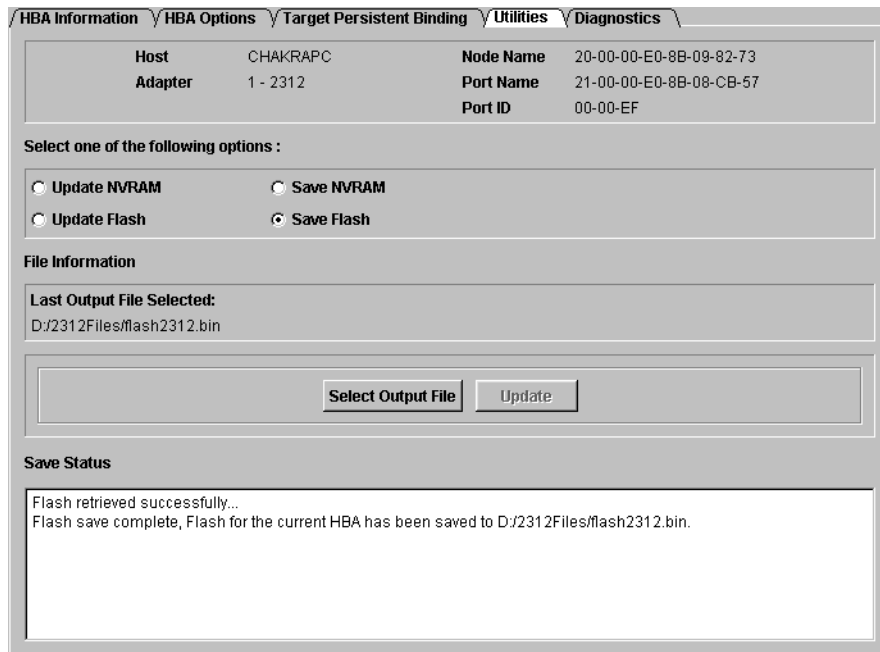

Figure 14-46. Utilities Tabbed Page (Saved NVRAM, Flash, or FCode)
4. Click **Save**. The configuration is saved to the appropriate file. The file name is displayed in the **Last Output File Selected** section of the **Utilities** tabbed page. The status of the save operation is displayed in the **Save Status** portion of the **Utilities** tabbed page (see figure 14-46).